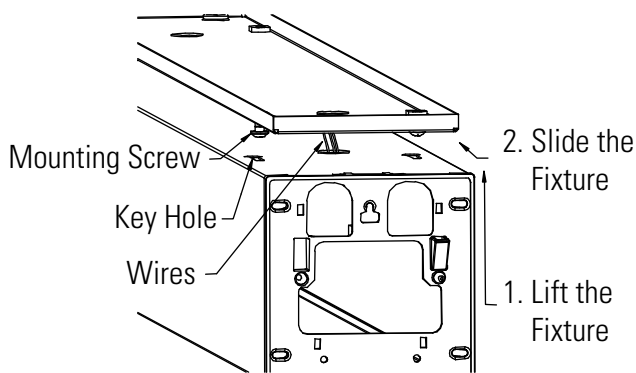

Figure 3
- A. Fish the wires from the mounting plate into the fixture and make required connections. (Fig. 3)
- B. Lift the fixture so the mounting screws go into the keyhole on the fixture. (Fig. 3)
- C. Slide the fixture in the direction of the keyhole until it stops. (Fig. 3)